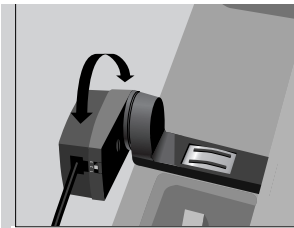

**Figure 2-9. Inserting the Optional Film.**
3. If the handset still does not lift up far enough, replace the standard lifting film with the optional film, as shown, and repeat test in positions 1-3 until the handset lifts up (Figure 2-9).